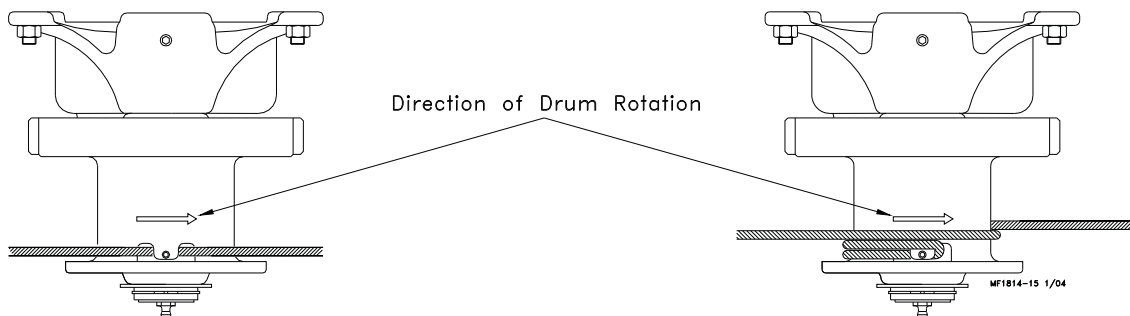

Figure 15. Attach cable to winch
3. Turn the winch drum one full revolution. Guide the cable against the flange at the bottom of the winch drum. The cable must not wrap over itself on the drum but should be wrapped as close as possible to each previous wrap, see **Figure 15.**